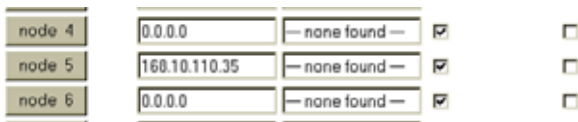

FIG. 260: NODE IP ADDRESS CONFIGURED
- Click on the OK button if you are satisfied with your entry. The IP Address of the instrument you want to configure permanently appears in the Node IP Address field. (See Fig. 260) The instrument has a Node 5 address in the network until you change it to another node or delete the node address.